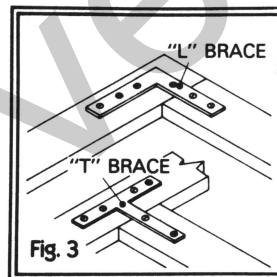

Fig. 3
3. Examine the joints of the frame to see if they are sturdy and firm. If joints are weak reinforce them by placing L-type or T-type braces over each joint (fig. 3).